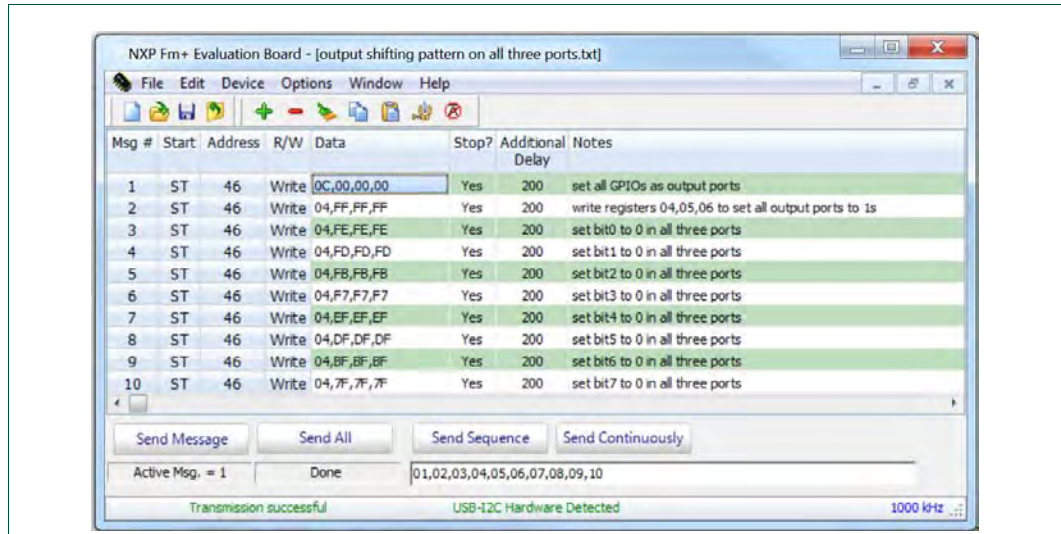

Fig 6. Message data in Expert mode to demo “output shifting pattern on all ports”
3. After opening the “output shifting pattern on all three ports” text file, the “NXP Fm+ Board GUI” in Expert mode screen will be displayed as shown in Fig 6.